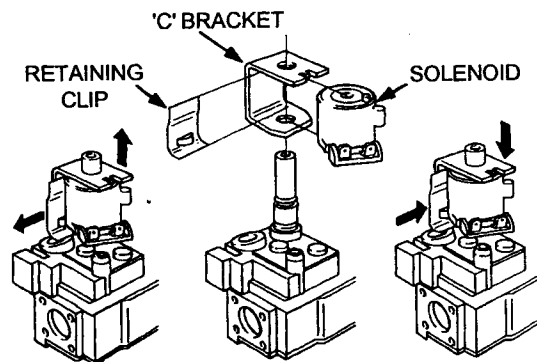

Fig. 31
- 8.12.22 Pull off the 'C' bracket and coil assembly. see fig. 31